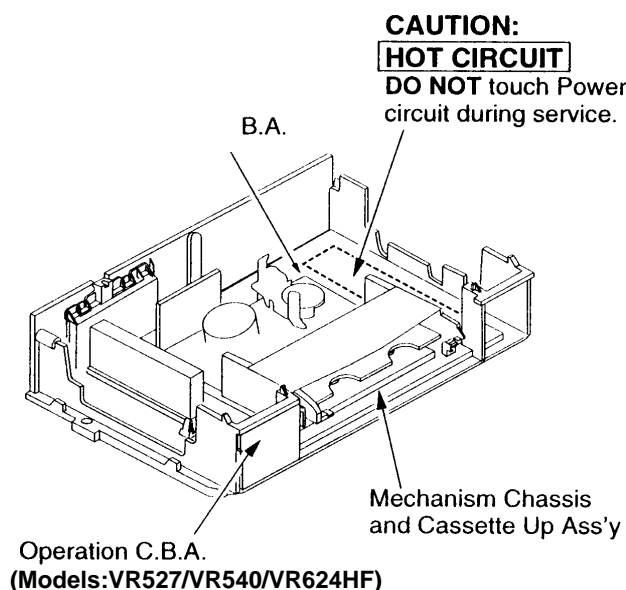

Fig. 2 - Service Position 1 (Bottom Cover Removal)
### Service Position (1) (Fig. 2)
2. Position the unit as shown in Fig. 2 to access the areas requiring service.